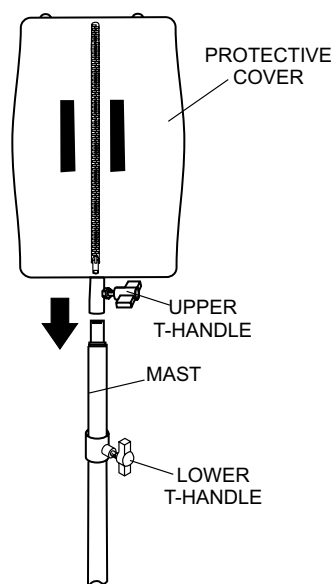

Figure 8. Light Assembly Placement
1. Place balloon assembly (Figure 8) onto mast and tighten Upper T-handle.